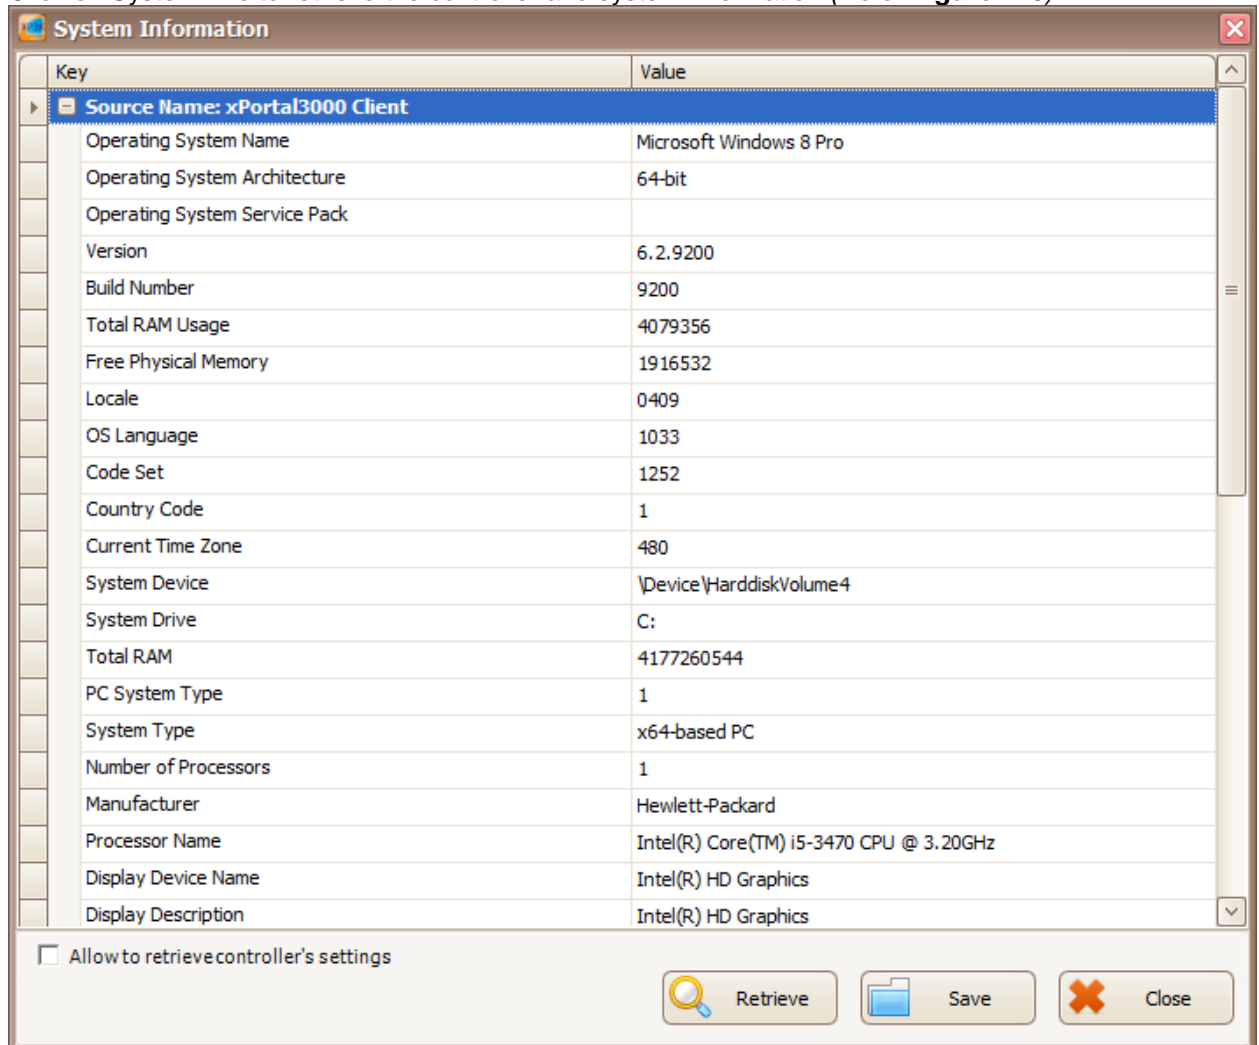

Figure 273 - System Information
2. Click on System Info to retrieve the controller and system information (*Refer **Figure 273***).